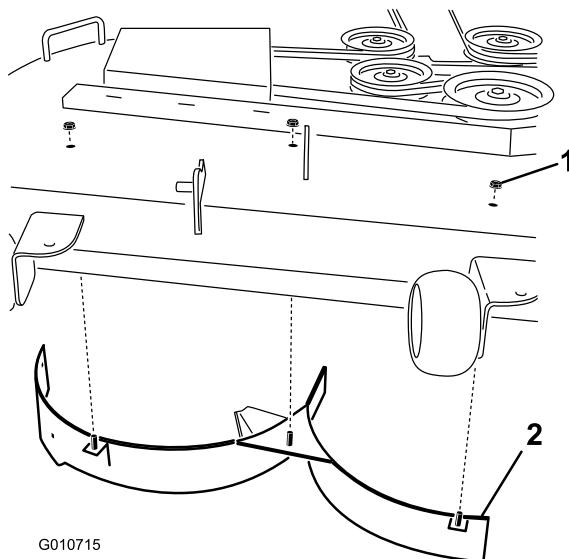

Figure 2
8. Install the right baffle to mower deck as shown in Figure 2. Use three lock nuts (5/16 inch) to secure the welded posts of the right baffle to the top of the mower deck at center, right of center and right positions. Hand tighten the fasteners.